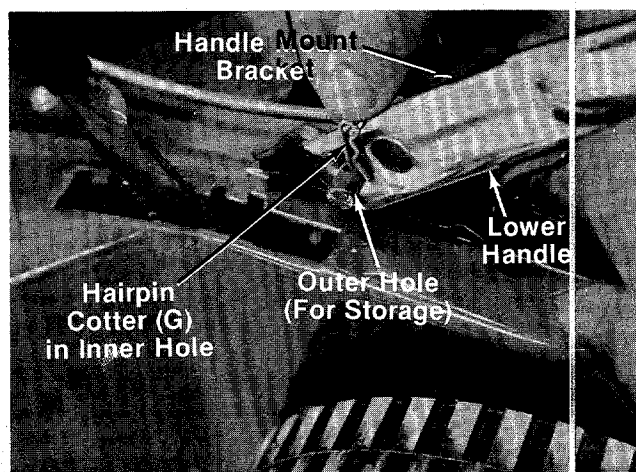

FIGURE 2.
- L (1) Battery Charger
- M (1) Upper Handle
- N (1) Lower Handle
4. Place bottom hole in lower handle in position over weld pins in handle mount brackets on deck. Make certain the instruction label on the lower handle can be read from the operating position. Secure by placing two hairpin cotters (G) in inner hole on weld pins. The inner hole is for operation. The outer hole is for storage. See figure 2.